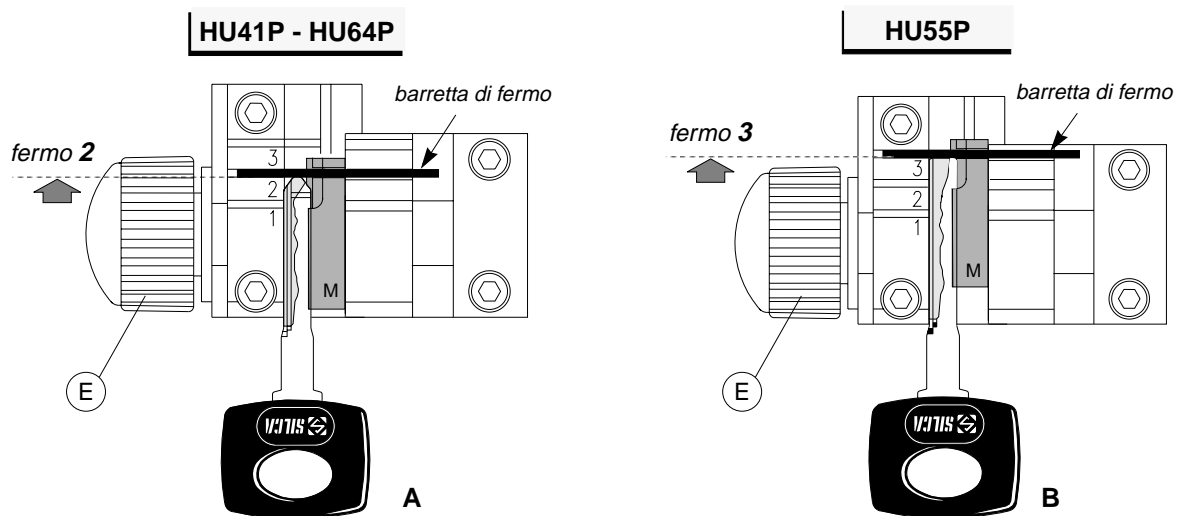

Fig. 21
- 2) place the adapter on the left-hand jaw and align the notch with "stop 2" (fig. 21-A).
- 3) place the adapter on the left-hand jaw and align the notch with "stop 3" (fig. 21-B).
- 6) secure the adapter and key by tightening knob (E).